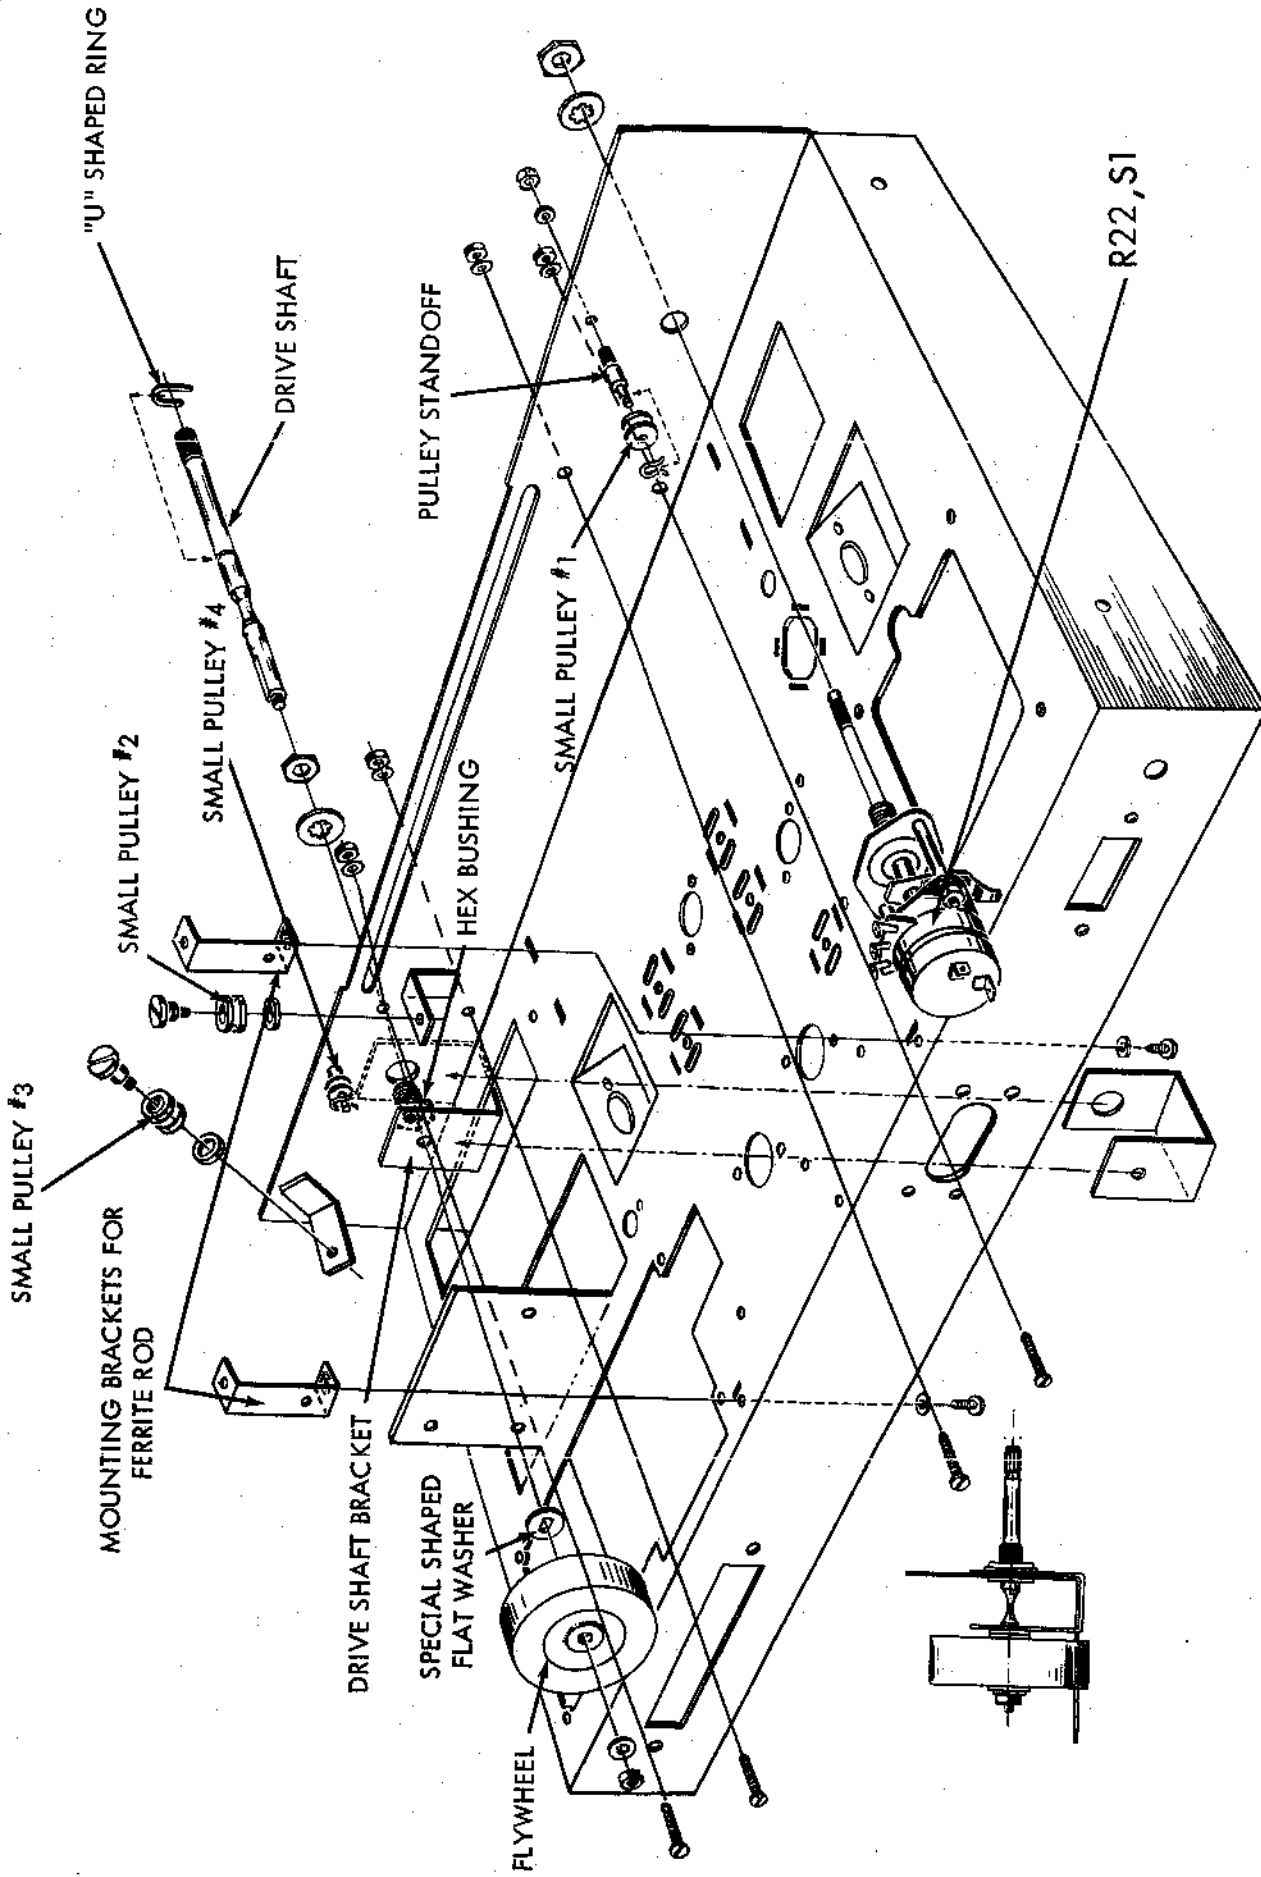

Fig. 1
- (*) 1. Fig. 1. Mount the drive shaft bracket from below the chassis as shown. Set the bracket in position so that the leg with the large hole rests against the front side of the chassis apron. Secure the 3/8 hex bushing (and the drive shaft bracket) in position with a 3/8 lockwasher and a 3/8 hex nut. Note that the leg with the larger hole against the front apron is mounted from the outside of the chassis. The bottom part of the bracket is below the chassis. Only the leg with the smaller round hole sticks out inside above the chassis and comes through the rectangular hole in the chassis.
- (*) 2. Fig. 1. Mount the potentiometer and switch combination, R22, S1, as shown. Note the lever from the shaft of the potentiometer extends through the rectangular hole underneath the component. Secure to the front chassis apron using one #3/8 lockwasher and one 3/8 hex nut.
- (*) 3. Fig. 1. Just above the potentiometer switch combination, R22, S1, mount the pulley standoff to the chassis. Use one #6 lockwasher and one #6-32 hex nut.
- (*) 4. Fig. 1. On the thin shaft of the standoff, mount the small pulley #1. Use a cotter pin to secure the pulley to the shaft.
- (*) 5. Fig. 1. Similar to steps numbers 3 and 4, mount the Small Pulley #4 on the front apron of the chassis, as shown.
- (*) 6. Fig. 1. Mount the small pulleys #2 and #3 to the angle brackets welded to the front apron on the chassis. Use one special #4 shoulder screw (upper shank unthreaded) and a #4 flatwasher on each. Place one pulley on top of each washer. Do not tighten the screws too much or the pulleys will bind and the threads will be damaged.
- (*) 7. Fig. 1. Mount the two ferrite rod mounting brackets to the top of the chassis near the rear edge. The small tab in one leg of each bracket fits through the rectangular slit in the chassis. Secure each bracket with a #6-32 x 1/4 screw and a #6 lockwasher.
- (*) 8. Fig. 1. Mount four #6-32 x 1 1/8 screws to the front apron. Use a #6 flatwasher and a #6-32 hex nut for each screw. The black backing plate and dial scale will be mounted later to these screws.
- (*) 9. Fig. 1. Close the "U" shaped ring around the anular groove on the drive shaft.
- (*) 10. Fig. 1. From the front of the chassis, pass the threaded end of the cord drive shaft through the 3/8 bushing and the small hole in the drive shaft bracket. The threaded end of the cord drive shaft is now protruding at the rear from the small hole in the drive shaft bracket. Over this threaded end, pass the specially shaped flat washer, the flywheel, a #10 lockwasher and a #10-24 hex nut, in the order given. The flywheel will fit on the shaft only if the side of the flywheel having the three small circular indentations is facing toward the front of the chassis. Tighten the whole assembly. Note that the drive shaft must rotate freely. A position of the 3/8 hex nut can always be found which will permit free rotation of the drive shaft. Adjust the 3/8 hex nut a little bit at a time until you find a position at which the drive shaft does turn freely. Note that it is quite normal to find that the drive shaft will not turn freely if the 3/8 hex nut is either tightened or loosened slightly from a position at which the drive shaft does turn freely. DO NOT thread the dial cord until free rotation of the shaft is assured. Check the three pulleys mounted in steps 4 and 5 above to be sure that they will rotate freely.